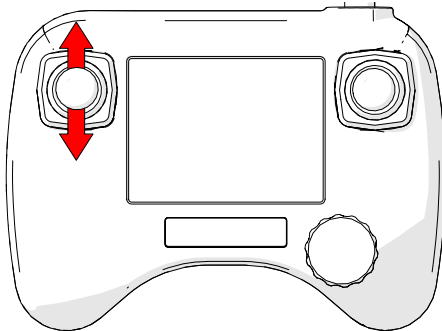
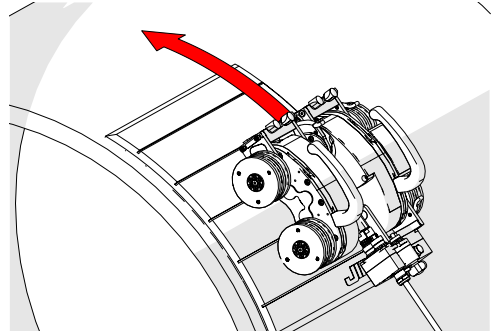
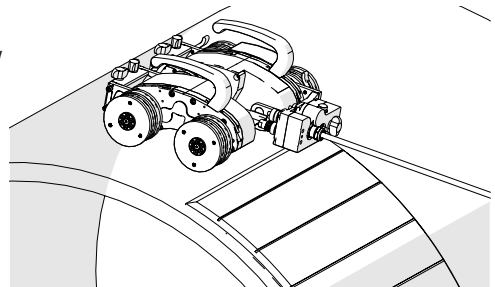

Fig. 47 - Drive the crawler
Fig. 48 - Drive crawler off the mat
Fig. 49 - Magnetized to surface
5. Ensure all four wheels of the crawler are held firmly against the installation/removal mat. While holding the crawler, use the Fwd/Rev joystick (Fig. 47) to carefully drive the crawler (Fig. 48) off the installation/removal mat and onto the inspection surface (Fig. 49).